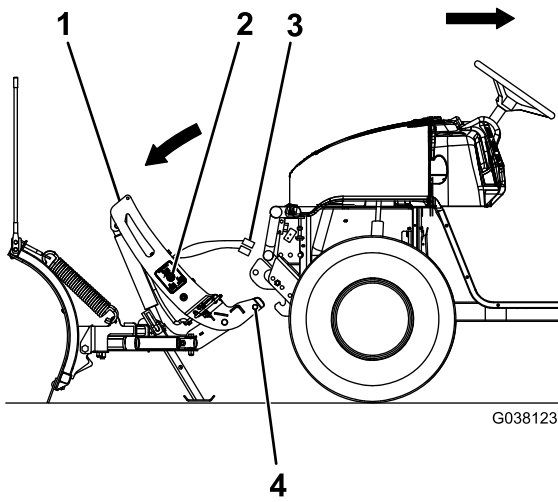

Figure 23
5. Push the SmartHitch2 switch on the side of the coupler tower downward and lower the tower completely (Figure 23).
- Disconnect the plow wire harness from the vehicle wire harness and secure the electrical-plug dust-covers (Figure 23).